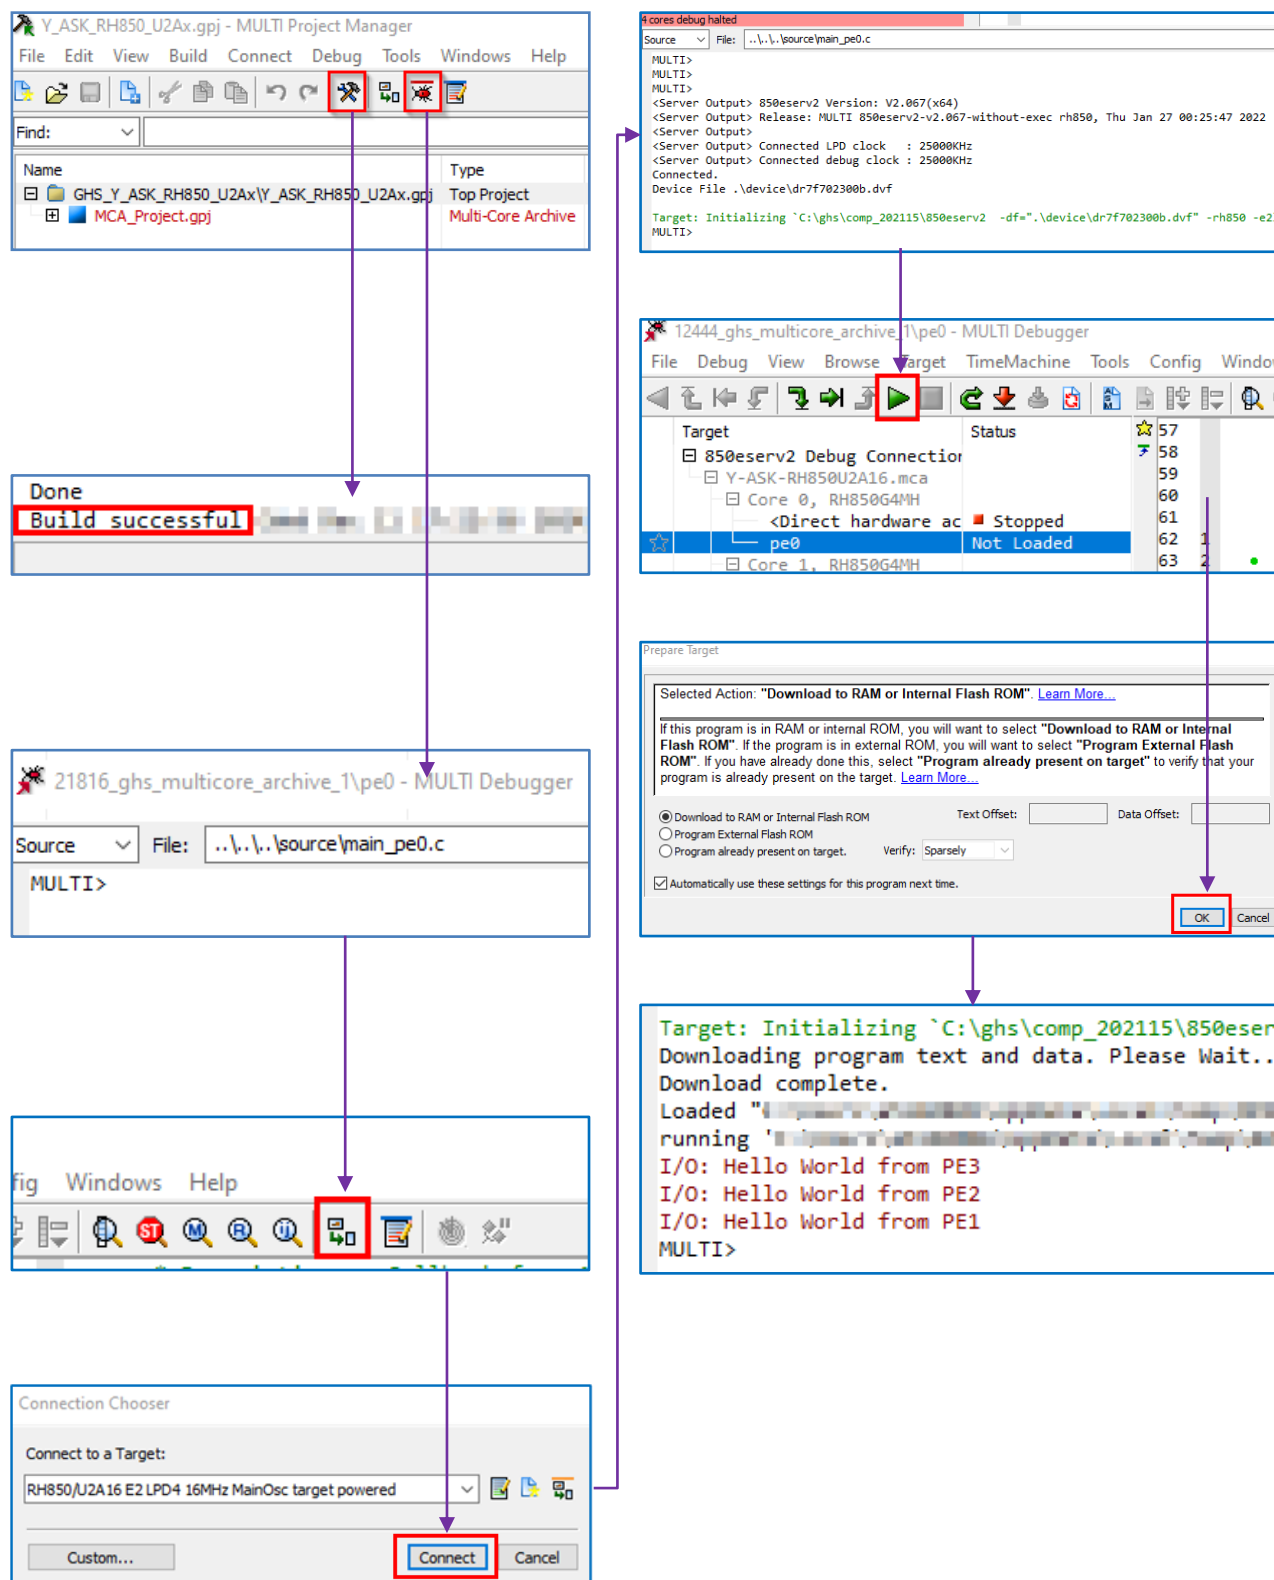

Figure 9 Green Hills MULTI Build and Debug Flow
- The flow is illustrated in *Figure 9 Green Hills MULTI Build and Debug Flow*